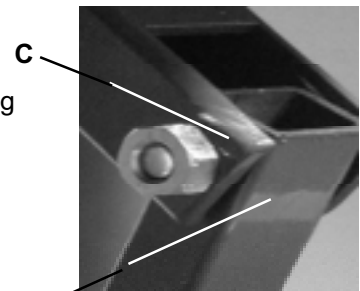

Figure 1a
2. Disconnect the **Tie-rod (A)** at both ends (**C**) and (**D**). (Figures 1a and 1b)
4. Re-connect the **Tie-rod** at the upper end (**C**). (Figure 1a)